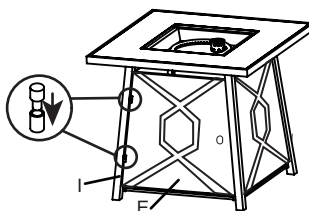

Figure 7
7. With the help of another person, carefully turn the fire pit to the upright position. Attach the door panel (E) to the front right leg (I) by aligning the hinge on the door panel with those on the front right leg (I) and inserting the pins in the hinges, (see Figure 7).